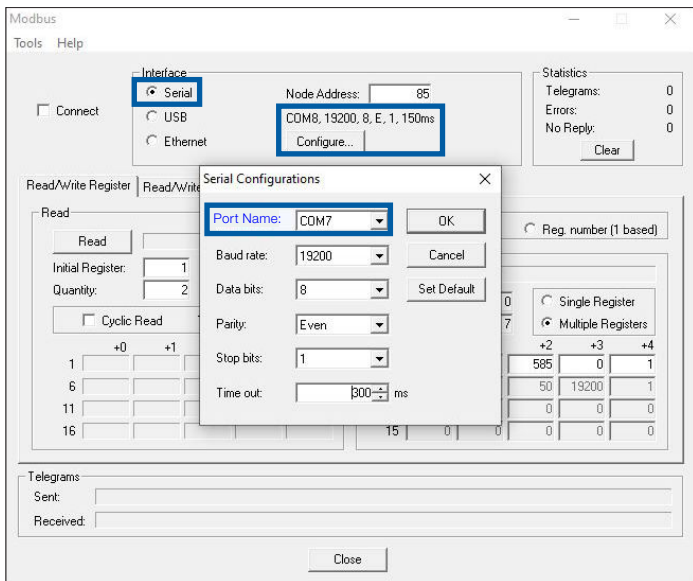
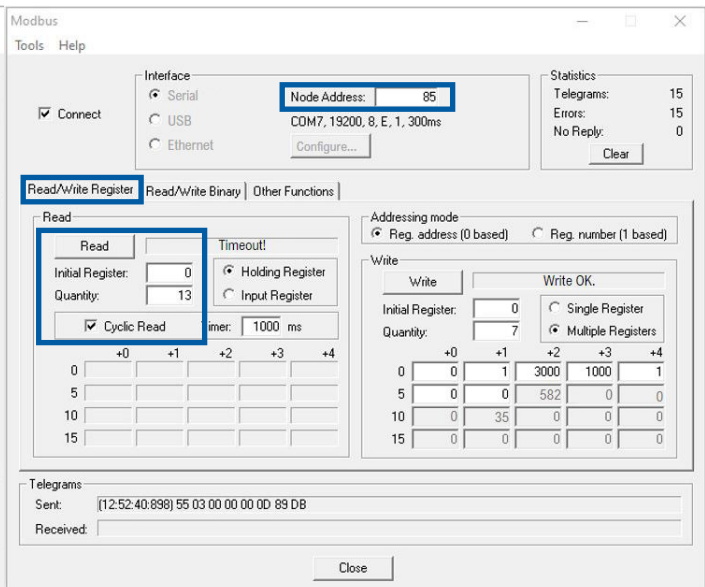

Figure 10 - Modbus parameter setting
Figure 13 - Modbus communication fail
- Step 3: Communication common port configure (refer to Figure 10).
- Step 2: Select “Read/Write register”, input register the initial address and quantity, and click read. Check whether the read function can be executed successfully. If communicating successfully, it shows like Figure 10. If communicating fails, it shows like Figure 13, and it is required to get the right address of this ECM Motor (Refer to Step 3).